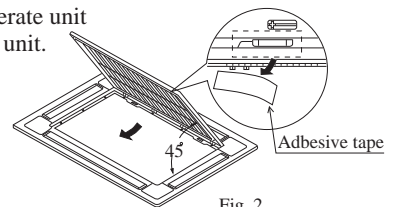

Fig. 2
② Lift it up for about 45 degree and remove it from ornament. Tear off adhesive tape fixing air filter on the back of the air inlet grill. (Refer to Fig. 2)